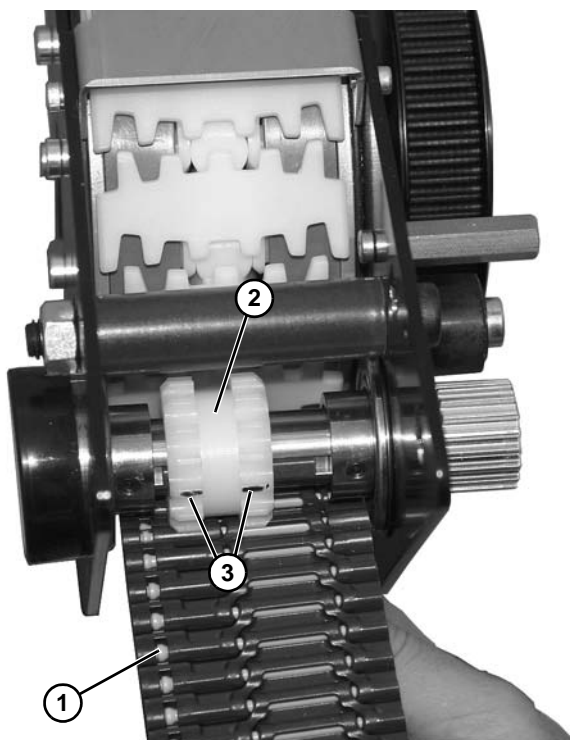

Figure 175
3. Raise belt (**Figure 175, item 1**) into position, and move gear (**Figure 175, item 2**) so that cogs line up with belt, as shown.
4. Tighten sprocket with set screws (**Figure 175, item 3**) in proper alignment with belt (**Figure 175, item 1**).